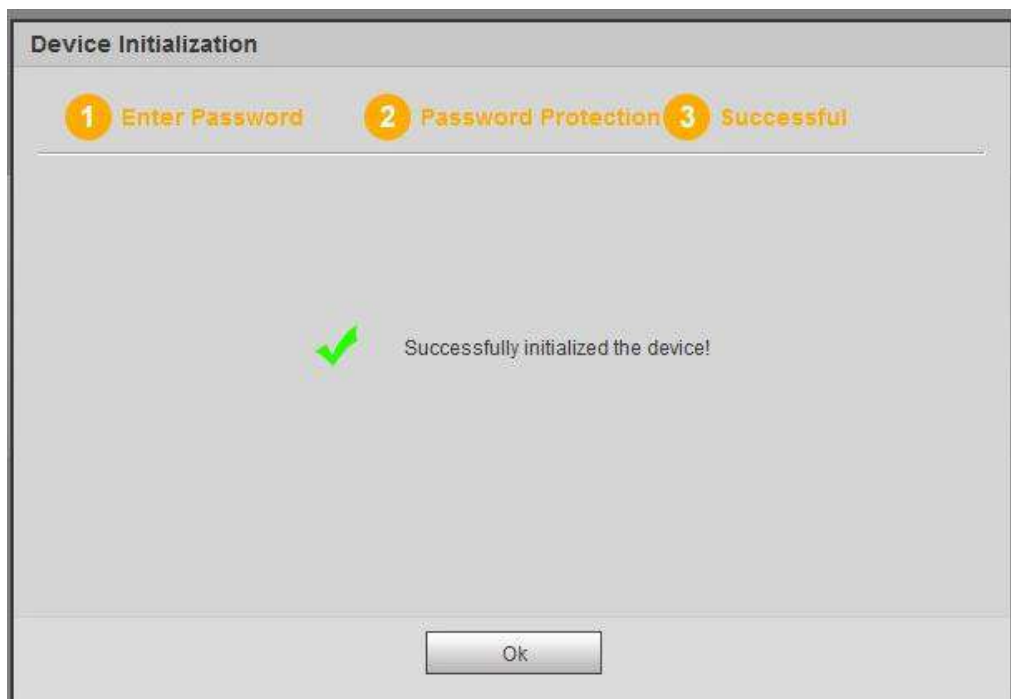

Figure 5-3
Step 6 Click OK to complete the device initialization setup. See Figure 5-3.
Step 1 Go to the device login interface. See Figure 5-3.